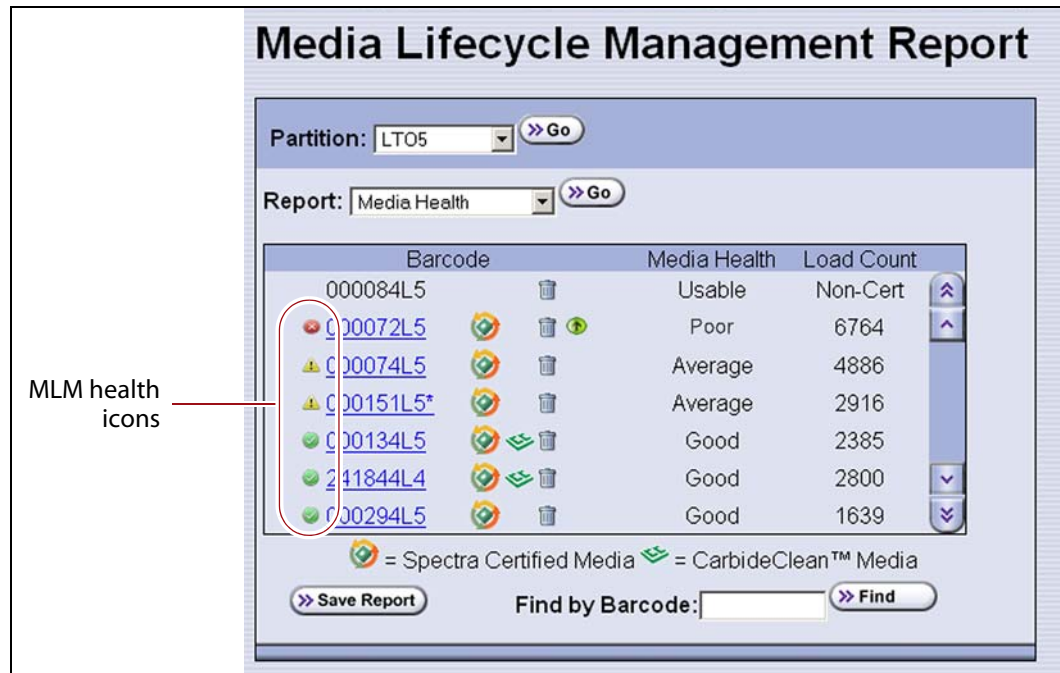

Figure 143 Use the health icons on the Media Lifecycle Management Report screen to quickly assess media health.
- Click **Previous** to return to the main Media Lifecycle Management Report screen (Figure 143 on page 276).
Report Selected Data	Only the fields displayed in the report that you selected on the Media Lifecycle Management Report screen (Figure 143 on page 276). Note: The headings in the saved report reflect the fields displayed in the report you selected in the Media Lifecycle Management Report screen.